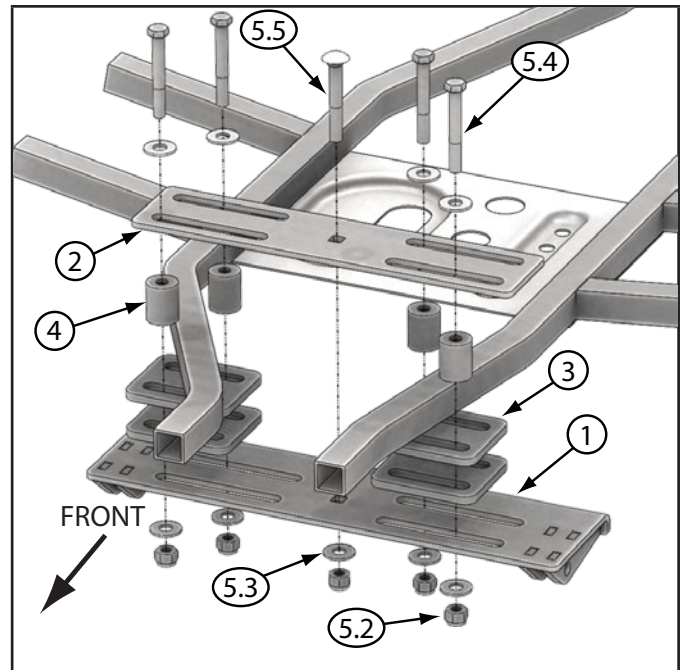

Figure 25 - Hybrid Mount Sportsman Install
4. Loosely install the upper mount plate (2), 4 spacer plates (3) and lower mount plate (1) using the rubber spacers (4), 3/8 in. (9.5 mm) bolts (5.4), 3/8 in. (9.5 mm) carriage bolt (5.5), nuts (5.2) and washers (5.3) provided with your mount. See Figure 25.